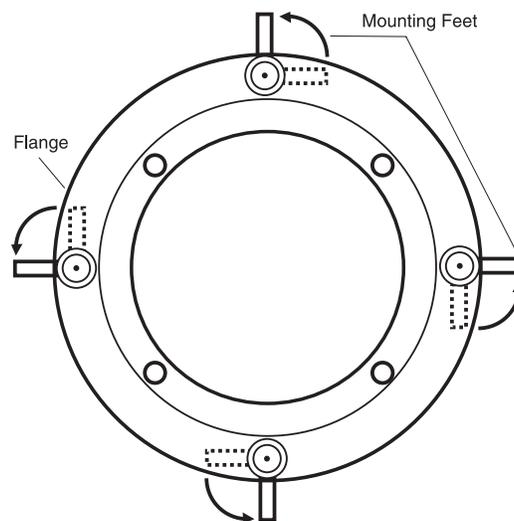

Figure 3
3. Make sure the mounting feet are turned inward to clear the opening, and insert the speaker into the ceiling. Position the speaker into the hole. Note: The flange of the speaker is designed to flex and conform to any small imperfections in the ceiling surface. Tighten the 4 screws on the front of the baffle only enough to make the flange become snug against the ceiling. As you tighten the screws, the feet will automatically flip into an outward position (**See Figure 3**) clamping the drywall between the feet and the flange. **CAUTION:** Over tightening may warp the baffle, crack the ceiling, cause the flange to distort, and make the grille difficult to install.